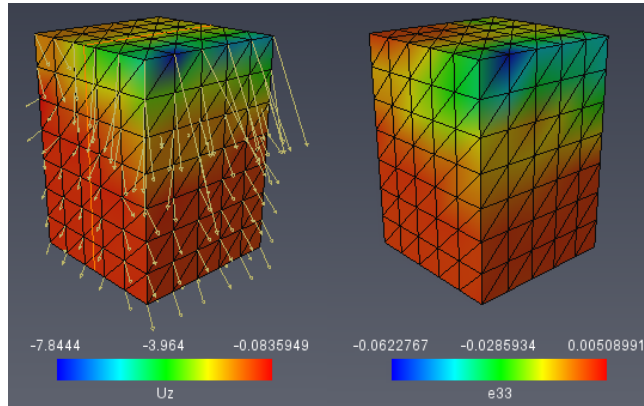

Figure 23.16: 3D visualization of the vertical displacement (left) and axial strain (right)
- To visualize the displacement vectors, connect a *Vector Field* module to *BCI_reference2.disp*. Set the *Scale* port to 25 (open more options on Scale port line and change Max value setting to 25), *Coloring* port to Uniform and select the yellow color from the port Uniform color. (see Figure 23.16).